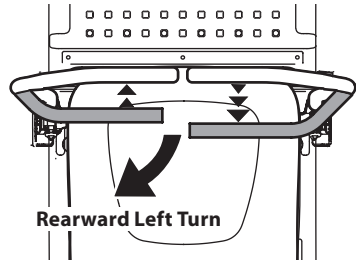

Figure 25
1. To turn to the left while traveling in reverse, move the left drive control lever forward of the right drive control lever (Figure 25).